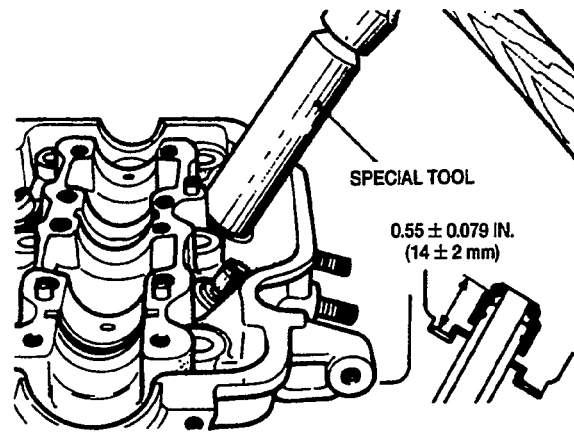

FIGURE 9-24. INSTALLING THE VALVE STEM SEAL
1. Install the valve stem seal in the valve guide using special tool "Valve Stem Seal Installer" (Figure 9-24). Do not reuse an oil seal.